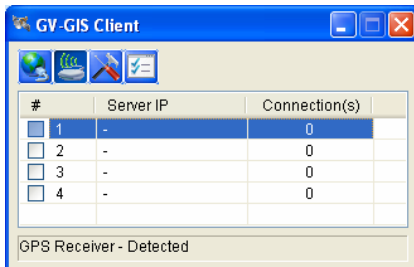

Figure 11-87
2. Click the  button on the GV-GIS Client window (Figure 11-87). This dialog box appears.
- Click the  button on the GV-GIS Client window (Figure 11-87). This dialog box appears.